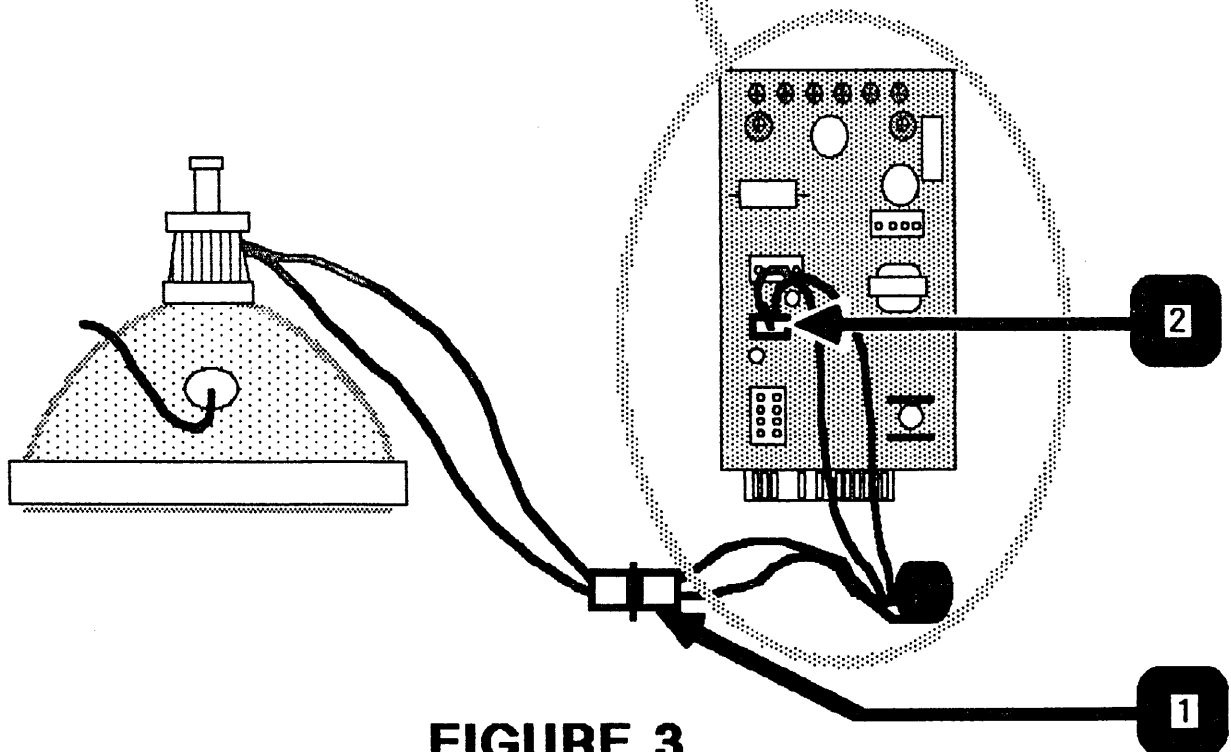

FIGURE 3
5. Disconnect the yoke connector (green and yellow wire) from P2 (Figure 3, #2) on the video board.
6. Connect the yoke (green and yellow) connector to the male socket attached to the transformer. (See Figure 3, #1.) There is only one way it will fit.
7. Connect the female transformer connector to P2 (Figure 3, #2) on the video board.